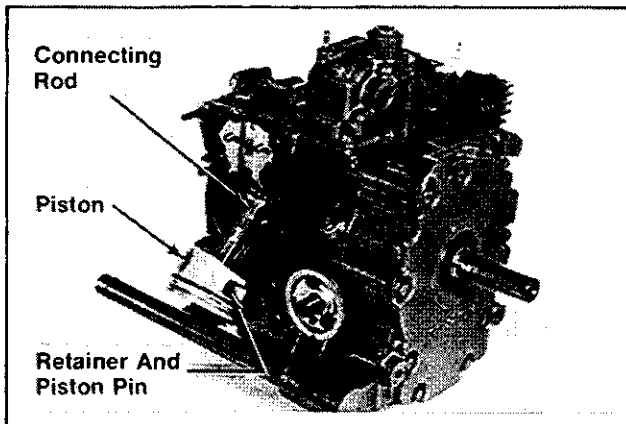

Figure 9-31. Removing Pistons.
**NOTE:** Disassembly procedures after cylinder barrel removal should be accomplished with engine on its side. Refer to Figure 9-31.
1. With a marking pen or paint, mark the pistons and connecting rods as #1 side and #2 side. Refer to Figure 9-31.